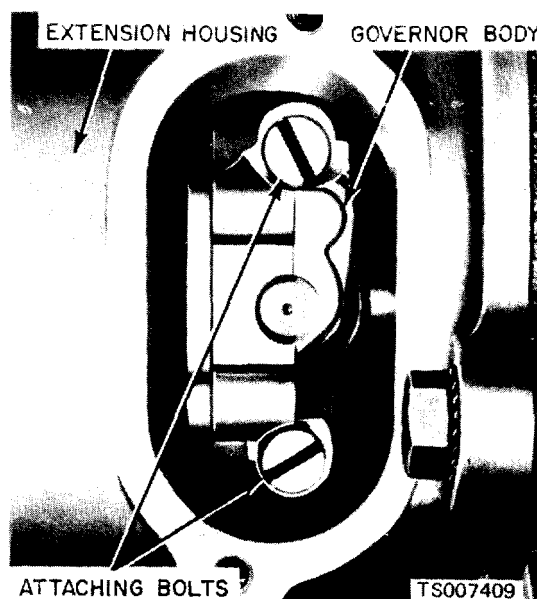

Figure 7-21. Governor Installed.
(1) Remove the governor inspection cover from the extension housing.
(2) Rotate the drive shaft until the governor is in line with the inspection hole (fig. 7-21).